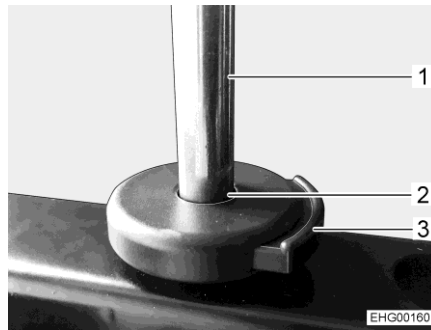

Fig. 19 Release button (headrest)
- Insert the bars (Fig. 19,1) of the headrest into the holders (Fig. 19,2).
- Press the release button (Fig. 19,3) and push the headrest further to the desired position.
- Press the release button (Fig. 19,3).